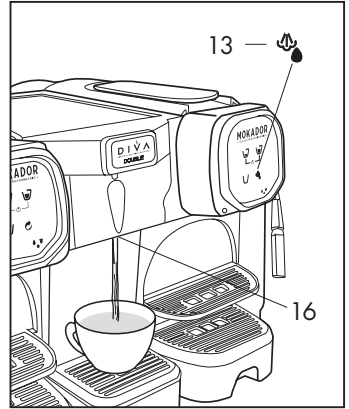

Fig. 11
- Place a cup under the nozzle (4) (Fig. 11)
- While pressing symbol (13) the machine delivers water (Fig.11). Release the key when the desired quantity has been delivered.